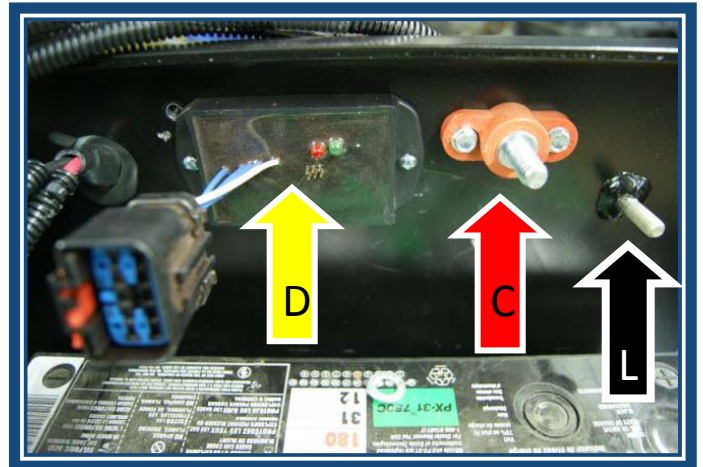

Figure 2
These should be mounted near the battery box ground stud (L) as shown in the picture to the right. (See Figure 2)